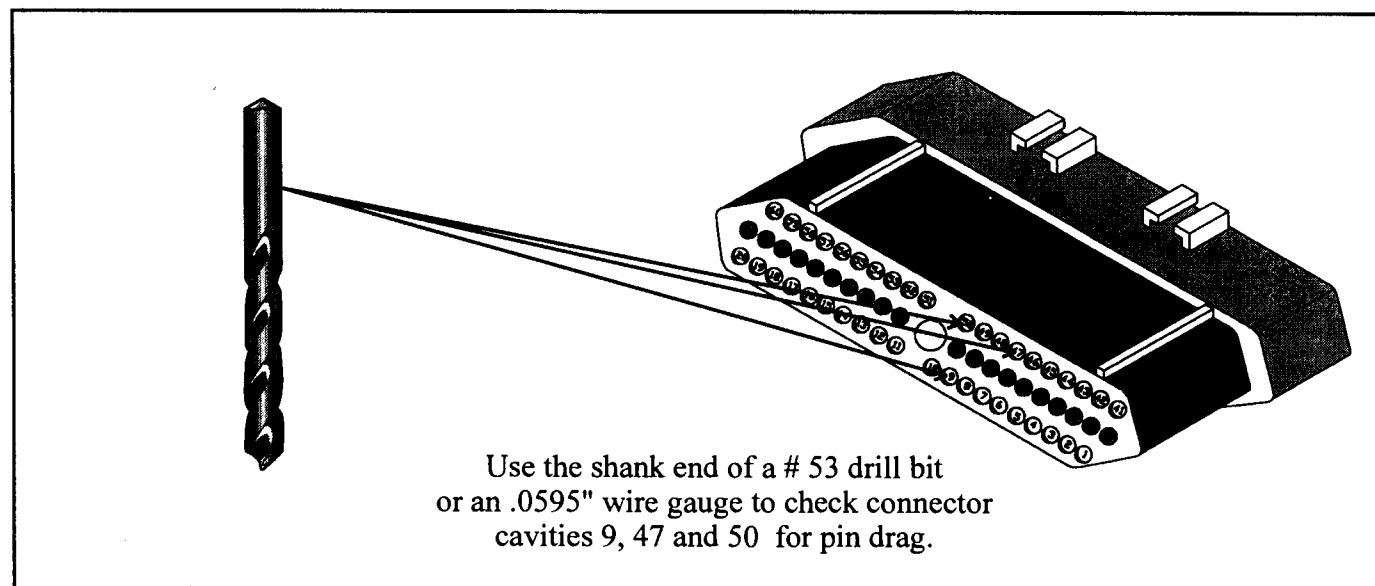

Figure 30
- Inspect cavities 9, 47 and 50 in the TCM 60 way connector for being spread, corroded or pushed back to far. Use the shank end of a # 53 drill bit or a .0595" wire gauge to check the terminal for pin drag (See Figure 30). A connector repair kit available from Chrysler under part number 4419479 if connector replacement is needed.